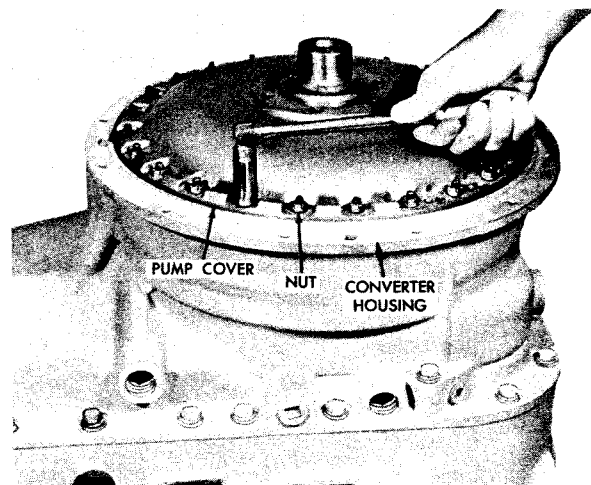

Fig. V-10. Removing (or installing) torque converter cover bolts
(3) Remove 24 nuts from converter pump cover (fig. V-10).